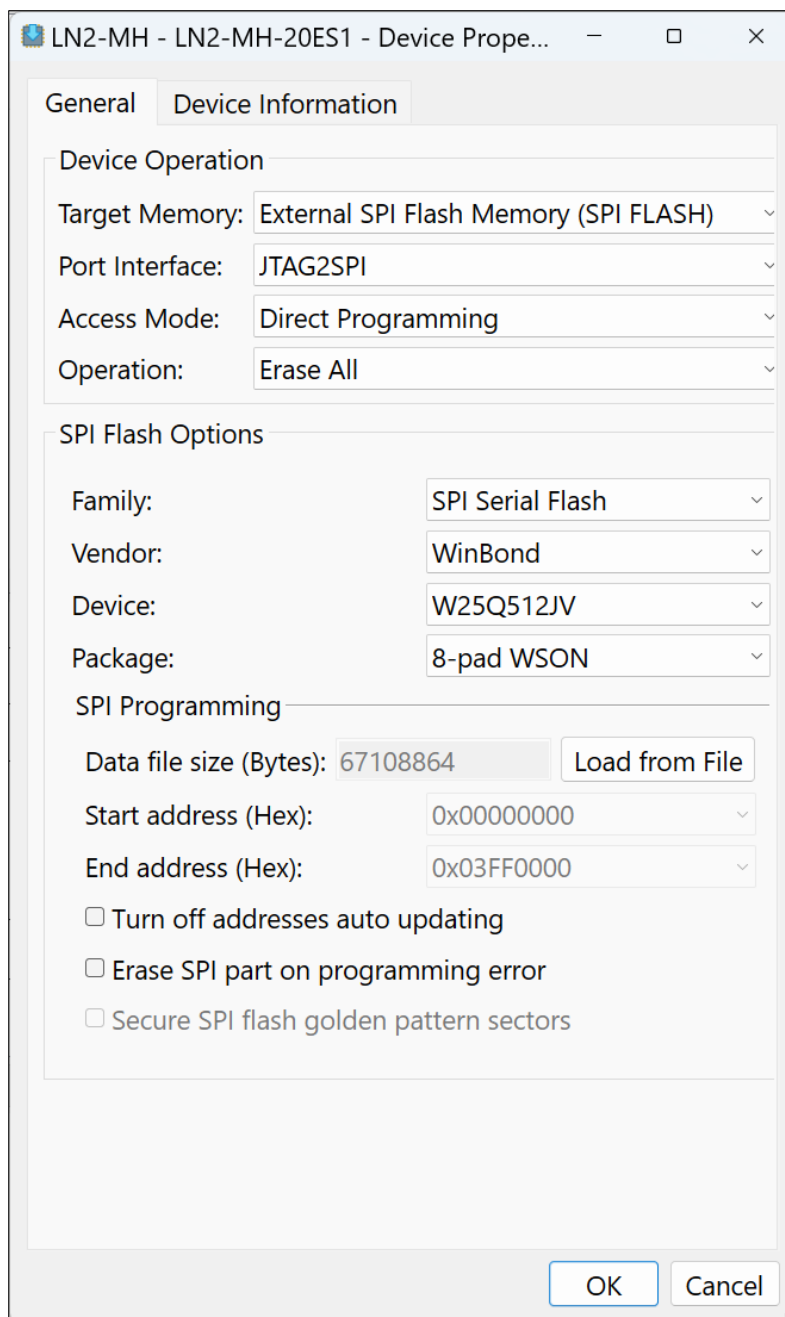

Figure 16.11. Radiant Programmer – Selecting Device Properties Options for CertusPro-NX Flash
5. Select JTAG2SPI for **Port Interface**, Direct Programming for **Access Mode**, and Erase All for **Operation** (Figure 16.11).